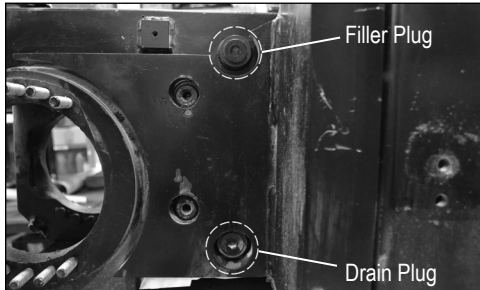

FIG. 2
1. Remove filler plug (Figure 2).
2. Drain fluid by removing the drain plug from side of tank (Figure 2). This unit contains 6 gallons of fluid. Ensure there is a proper amount of containers to catch fluid.
4. Remove filler plug (Figure 2).